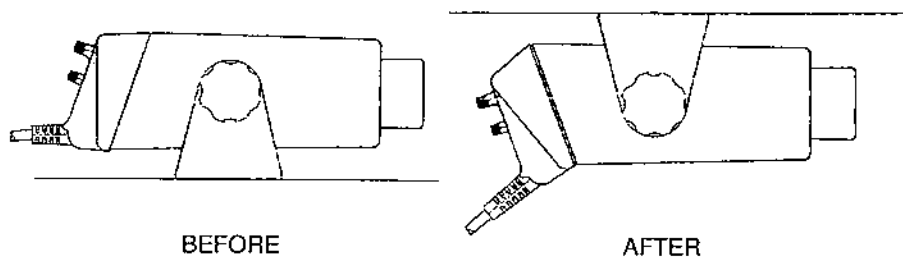

Figure 2-2 Front Panel Reversal Procedure.
7. Mount the trunnion bracket on the top of the radio. Figure 2-2 shows the "before" and "after" results.